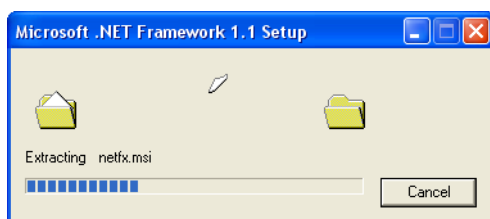

Figure 7: Microsoft .NET Setup In Progress
4. Click on the button to begin setup of the installation. A window appears showing the progress of the setup (see Figure 7).